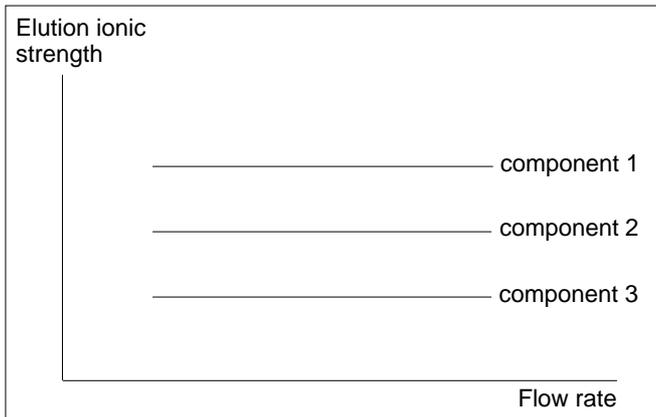

Fig. 1.
1. Best separating pH and buffer system for the sample can be determined by scouting on Mono S HR 5/5. High flow rates (up to 2 ml/min) and small gradient volumes (20 ml) may be used to save time. The elution ionic strength for each separated component is independent of the flow rate (Fig. 1).